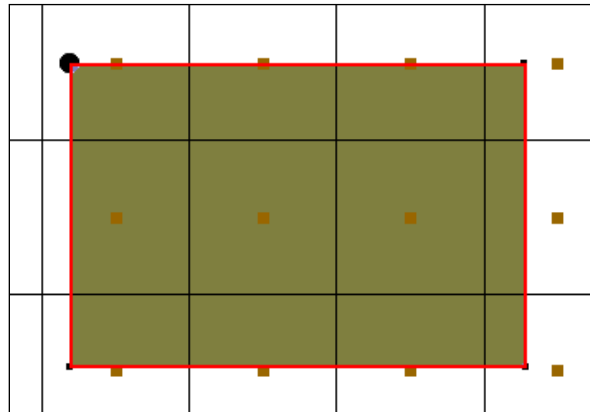

Figure 5 The polygon created from the arc, when selected
4. Select *Feature Objects* / **Build Polygons** to create a polygon (Figure 5).